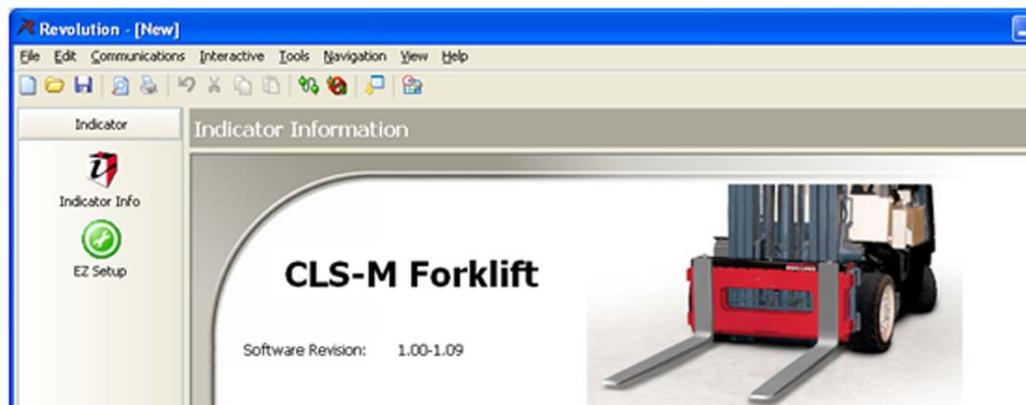

Figure 4-14. Main Menu
5. Once selected, the main screen shown in Figure 4-14 is displayed.